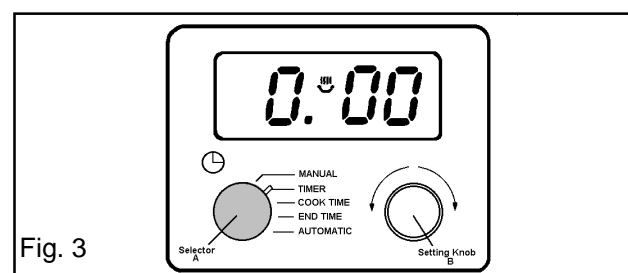

Fig. 3
Turn the selector (A) to 'Timer'. 0.00 and the cookpot (🍲) symbol will glow. Fig. 3.